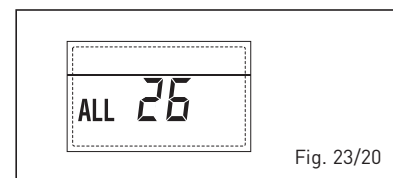

Fig. 23/20
– **ANOMALY SOLAR APPLICATION COMPATIBILITY “ALL 27” (fig. 23/21)**